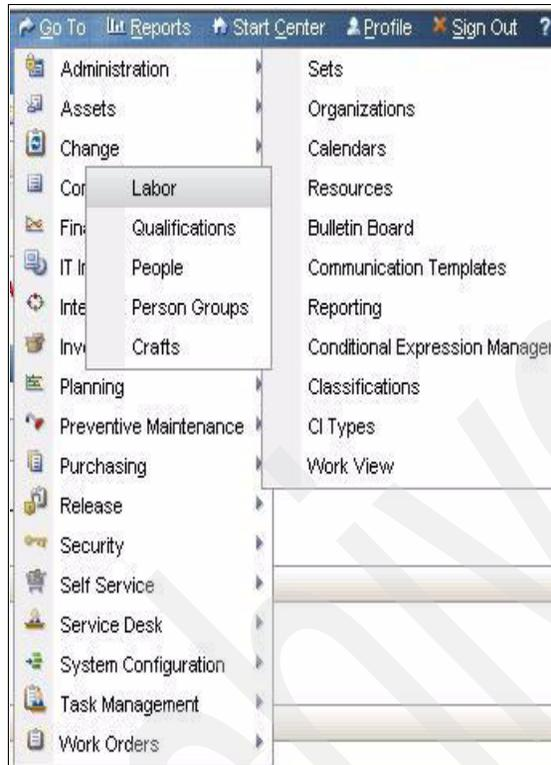

Figure 5-38 Labor
- From the Start Center navigate to the Go To function and select **Administration** → **Resources** → **Labor** (see Figure 5-38).